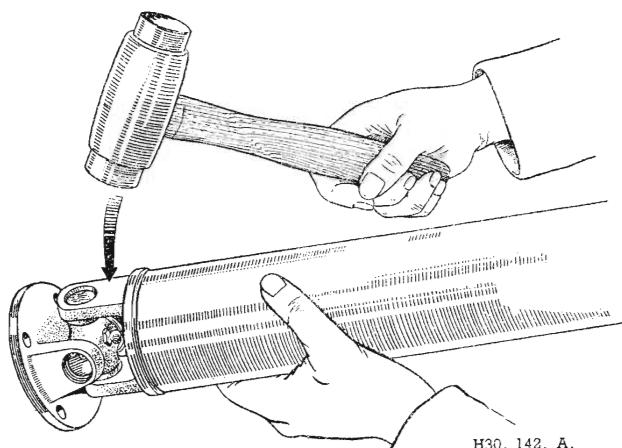

Fig. G.3. Tapping the joint to extract bearing.
- (1) Clean away the enamel from all the snap rings and bearing faces, to ensure easy extraction of the bearings.
- (2) Remove the snap rings by pressing their ends together and prise out with a screwdriver. If the ring does not come out, tap the bearing face lightly to relieve the pressure against the ring.
- (3) Hold the splined end of the shaft in one hand and tap the radius of the yoke with a lead or copper hammer (Fig. G.3), when the bearing will begin to emerge. If difficulty is experienced, use a small bar to tap the bearings from the inside, taking